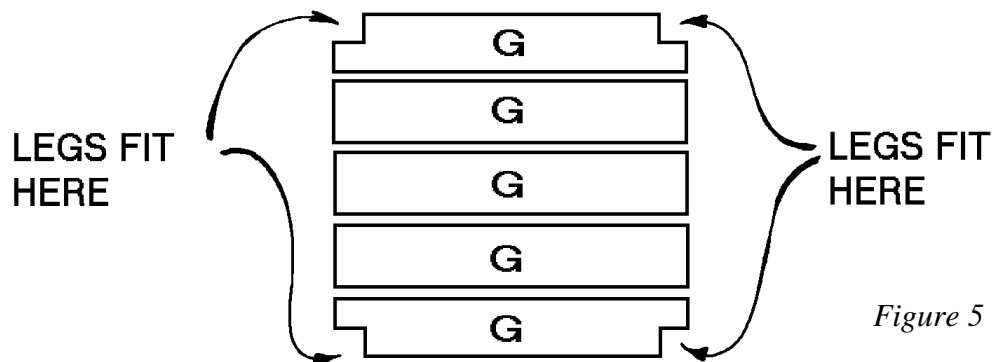

Figure 5
- Turn the assembly right side up. Place the five shelf slats so that they are supported by the lower two shelf supports (F). The notches cut into the two outer shelf slats (G) should fit around the legs, as shown in *Figure 5*. Space the remaining three shelf slats (G) evenly across the length of the shelf supports (F).